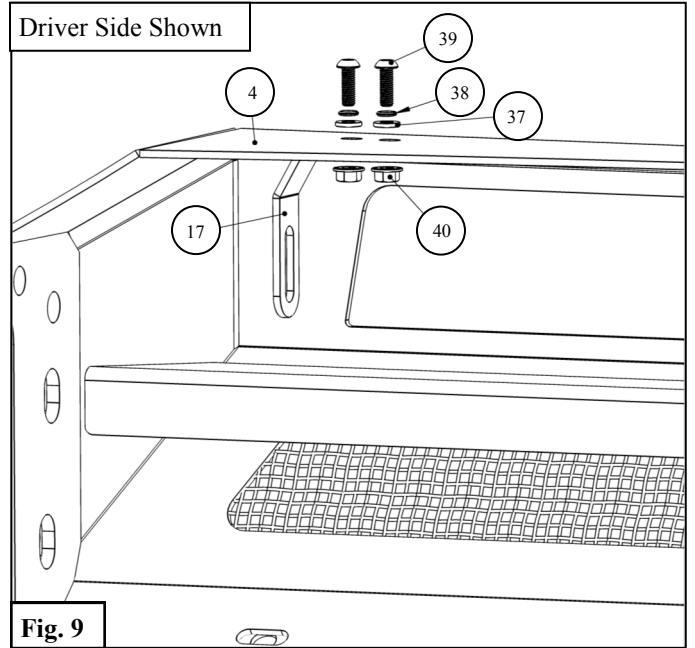

Fig. 9
9. Use the supplied M6 Hardware to attach the LED Brackets (17) to the center section. See **Figure 9**. *Note: If installing an LED Light Bar (sold separately), install it at this time.*